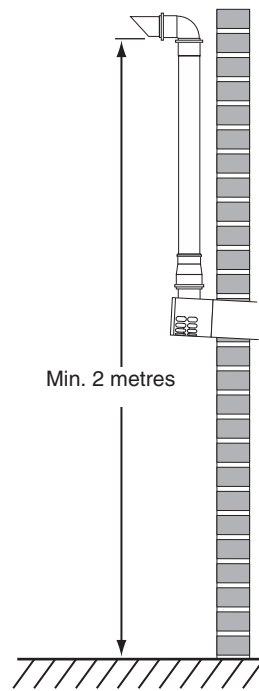

Fig. 7
2. When completed the terminal must be at least 2 metres above ground level (Fig. 7).